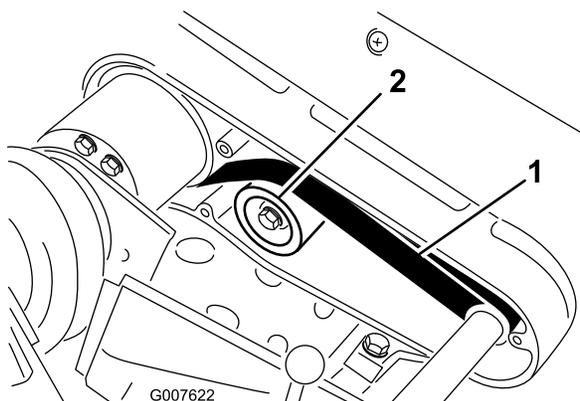

Figure 38
- Check the tension by pressing the belt at mid span of the pulleys (Figure 38) with 5 to 6 lb (22–26 N) of force. The belt should deflect 1/4 inch (6 mm).
- Loosen the idler pulley mounting nut and pivot the idler pulley clockwise against the backside of the belt until the desired belt tension is attained (Figure 38).